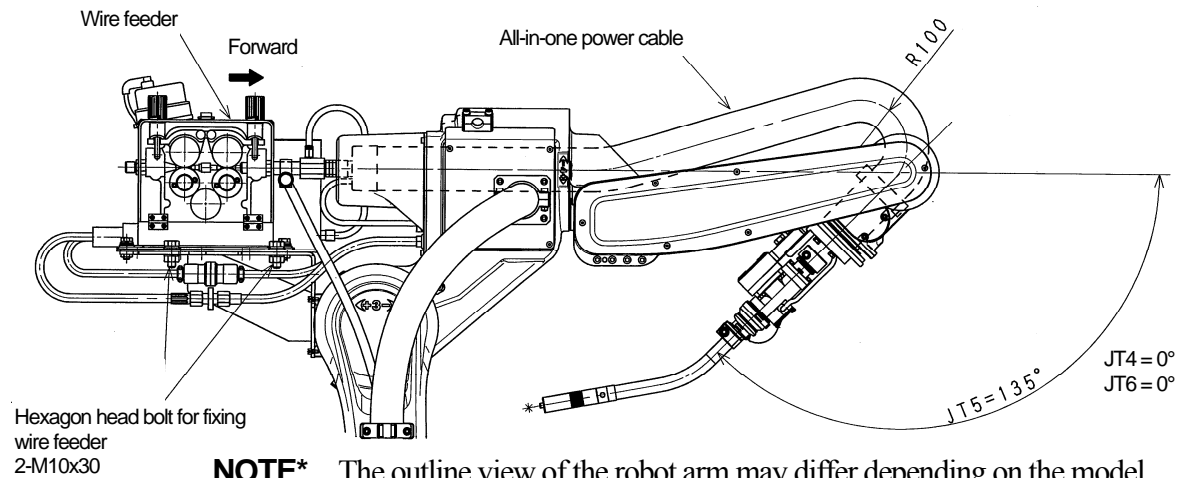

Figure 2.10 Robot posture when adjusting tension
3. Move the robot to the posture shown in the Figure 2.10.